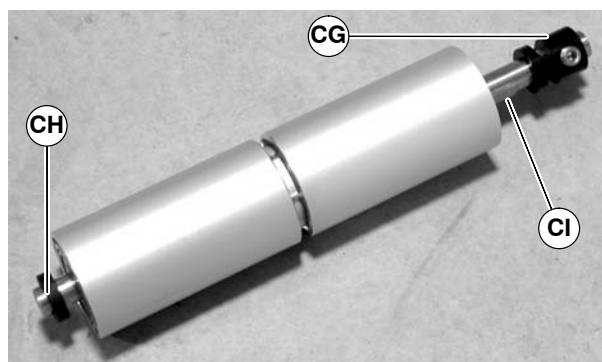

Figure 67
8. Remove the tension pulley locking collar (CG of Figure 67), spacer (CH) and pulley shaft (CI) from the roller pulley shaft assembly.